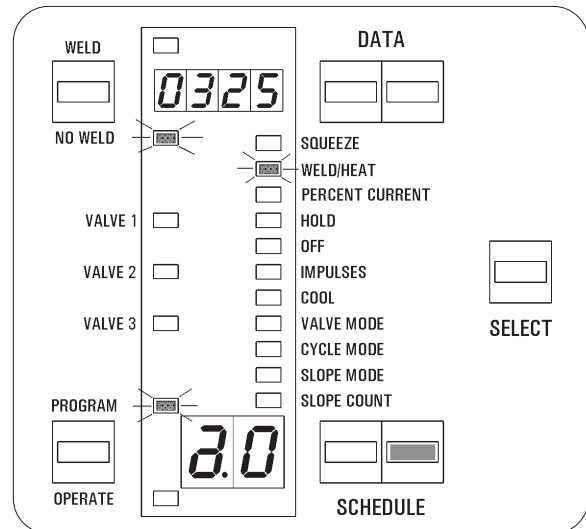

Figure 7-3. Program WELD COUNT
5. Press the SCHEDULE push buttons to find **2.0** in the SCHEDULE display (Figure 7-3).